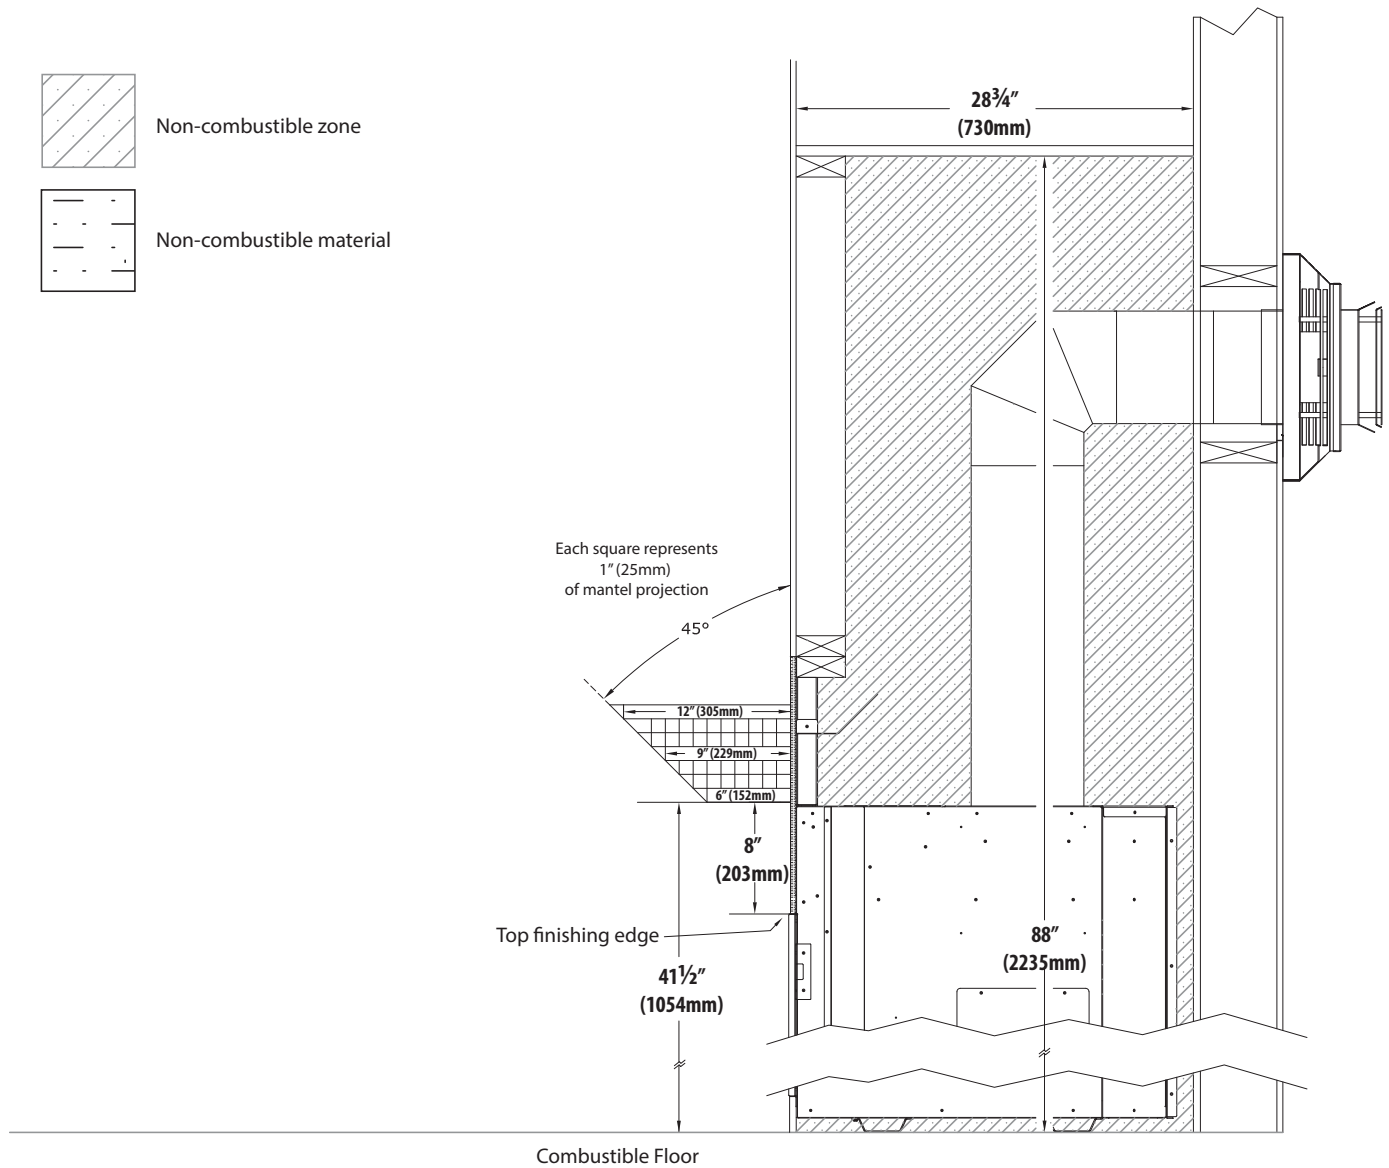

Figure 4.2, Standard Installation Non-combustible Mantel Clearances
- **Non-combustible Mantel Projections:** A minimum vertical clearance of 8" (203mm) above the top finishing edge to a maximum 6" (152mm) depth of a non-combustible mantel. Follow projection 1" (25mm) up for every 1" (25mm) deeper. See Figure 4.2 on page 30.